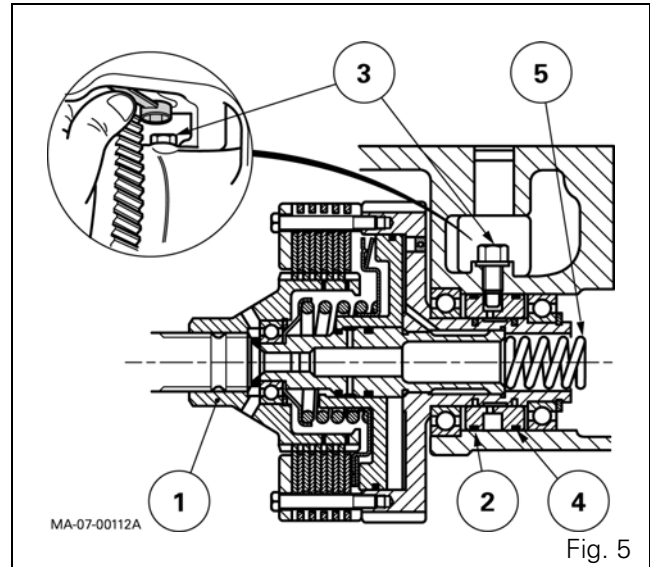
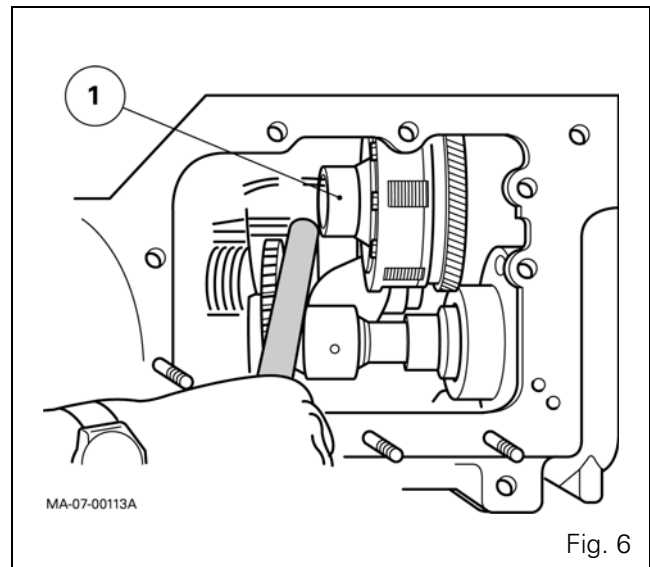

Fig. 5
Fig. 6
3. Take off the retaining screw (3) of the clutch (1) using a multipurpose wrench (for cutting and shaping as needed). Remove the clutch and spring (5) (Fig. 5).
5. Check that O'rings (2) (4) (Fig. 5) are not damaged.
6. Fit spring (5) (Fig. 5) in the port of the PTO shaft and refit the clutch (1) by moving it forwards to the maximum using a lever (Fig. 6) to press down on the spring in order to fit the screw (3).
7. Clean and smear the screw with Loctite 542 and tighten to 50 - 70 Nm (Fig. 6).
14. Take off the retaining screw (3) of the clutch using the same equipment as that used for the 2-speed version. Remove clutch and spring (5) (Fig. 5).
16. Check that O'rings (2) (4) (Fig. 5) are not damaged.
17. Place spring (5) (Fig. 5) in the port of the PTO shaft and refit the clutch (1) by moving it forwards to the maximum using a lever (Fig. 6) to press down on the spring in order to fit the screw (3).
18. Clean and smear the screw with Loctite 542 and tighten to 50 - 70 Nm (Fig. 5).